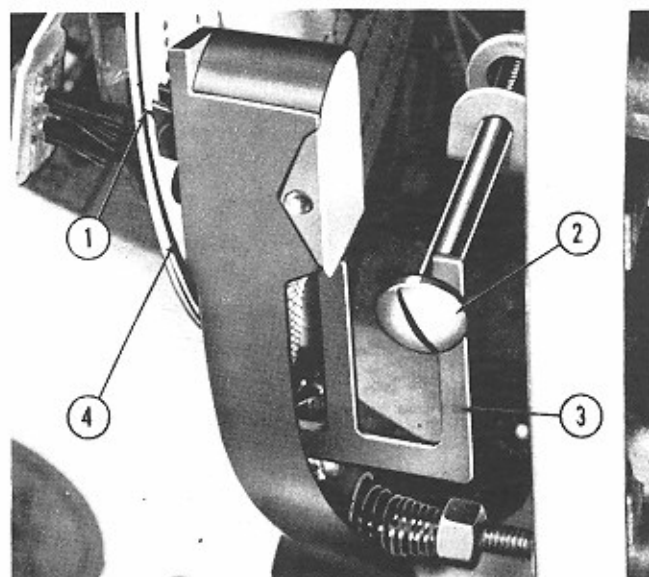

Fig. 79. TONE ARM FEED-IN ADJUSTMENT
u. Tone Arm Feed-in Adjustments. (Fig. 79)
The tone arm latch bracket (Item 3, Fig. 79) should still be engaged with the feed-in screw (Item 2).